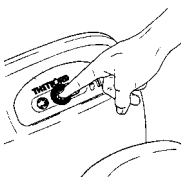

Fig 11a
- 11a. C-200 CWE only: After use, open valve blade (if still closed) and flush, press the flush button (fig. 11a). After flushing, close the blade by turning the blade handle.